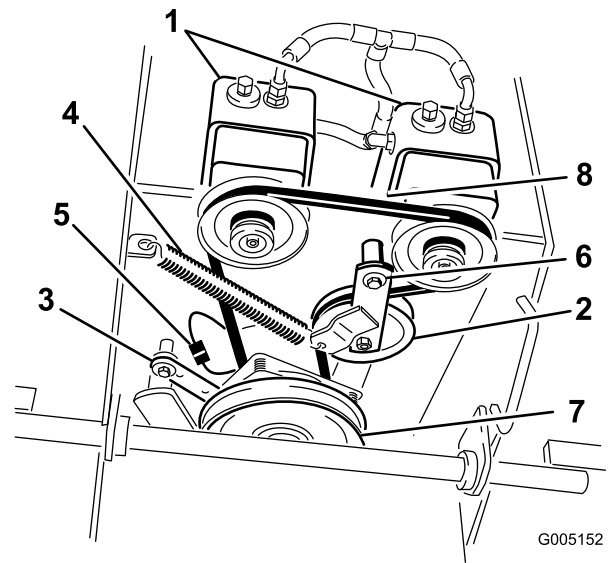

Figure 40
6. Disconnect the clutch retainer from the engine deck (Figure 40).
7. Unhook the idler spring from the frame (Figure 40).
9. Install the idler spring between idler arm and frame bracket (Figure 40).
10. Install the clutch retainer to the engine deck (Figure 40).